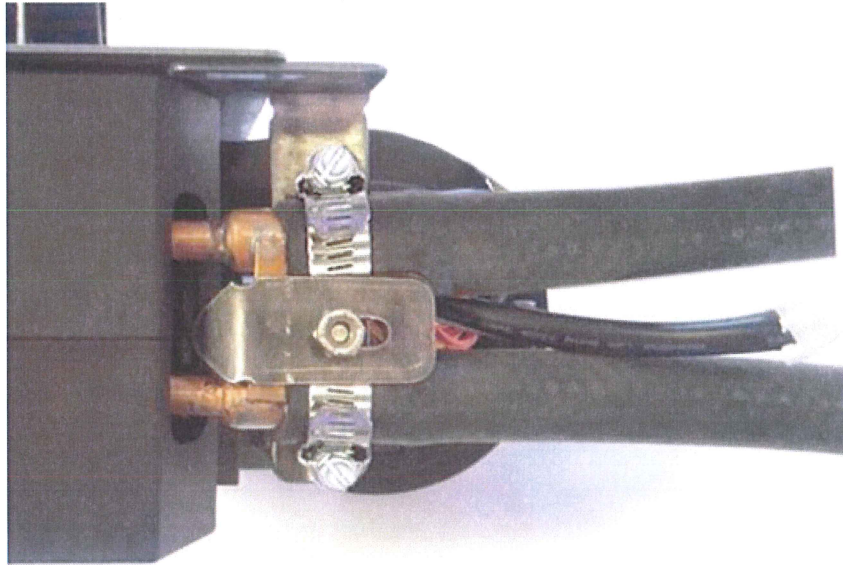

Figure 7
16. Attach the Heater Hoses to the heater unit pushing the hose completely on the core fitting – Please note the hose clamp placement as shown in Figure 7.
18. Install the Heater Core Support Bracket to the hoses as shown in Figure 7. *Do not over tighten the through bolt.*